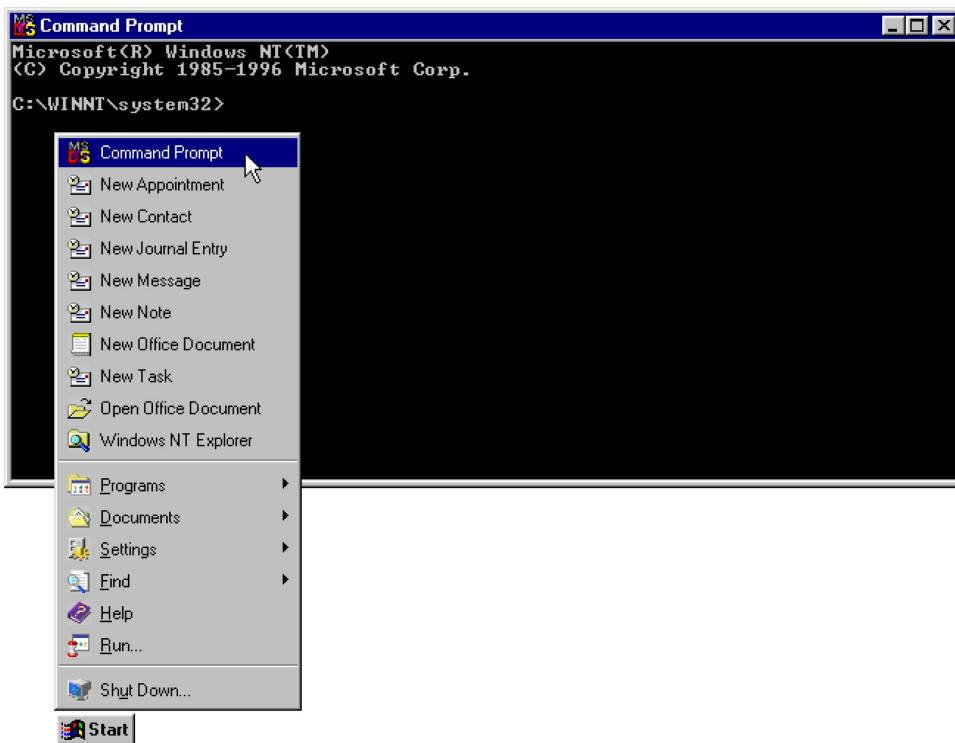

Figure 11. Open a DOS window to start the process of obtaining a license for 3D Lightyear software.
- 1. Open a Command Prompt (DOS window) from the Windows' "Start" menu (See Figure 11).**